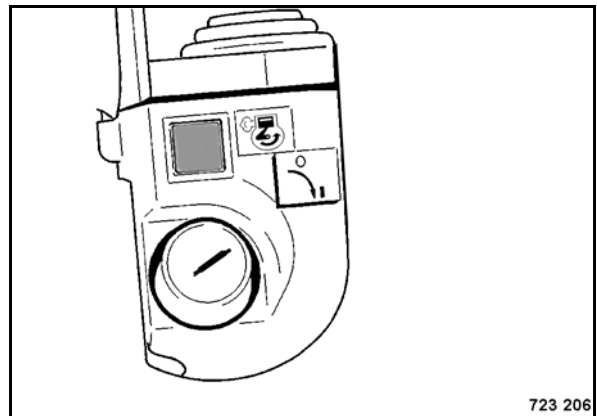

Fig. 63
- Press the start button to start the engine (Fig. 63).